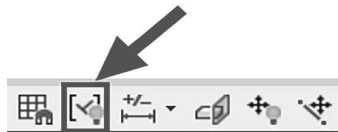

Figure 2.76
- 26** From the Status Bar, click Show All Constraints, as shown in Figure 2.76.